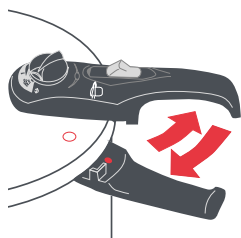

Fig. 1
Lid (1). Manufactured in 18/10 stainless steel. The lid (1) needs to be closed properly for the pressure cooker to reach sufficient working pressure. To fit the lid (1) easily, align the ↓ / ● mark on the left-hand side of the lid handle (5) with the ● mark engraved on the pot body handle (10) (Fig. 1).